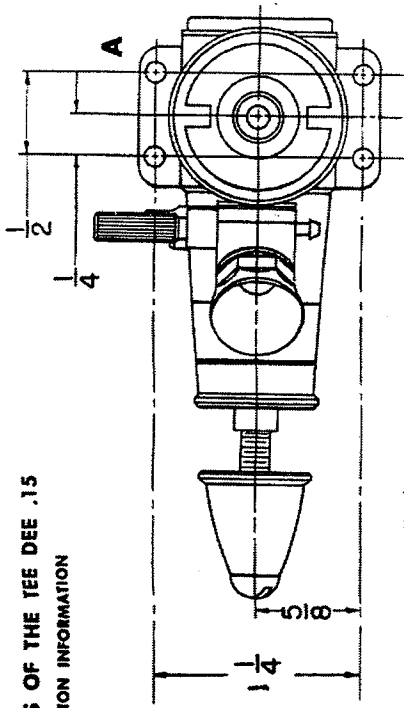

Fig. 2
1. Mount the engine in the plane, or if you want to give it some running first, mount it on a suitable mount. Do not hold the engine directly in a vise. Use A-Fig. 1, or A-Fig. 2 as a template to drill mounting holes.
1. Close the carburetor needle valve, B-Fig. 1, or B-Fig. 2, by turning it clockwise until it stops. Do not force it.